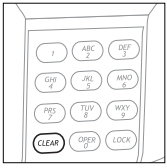

Figure 1
1. If you press a wrong key while entering your code, you may press "CLEAR" to reset prior to pressing "LOCK" (Figure 1).